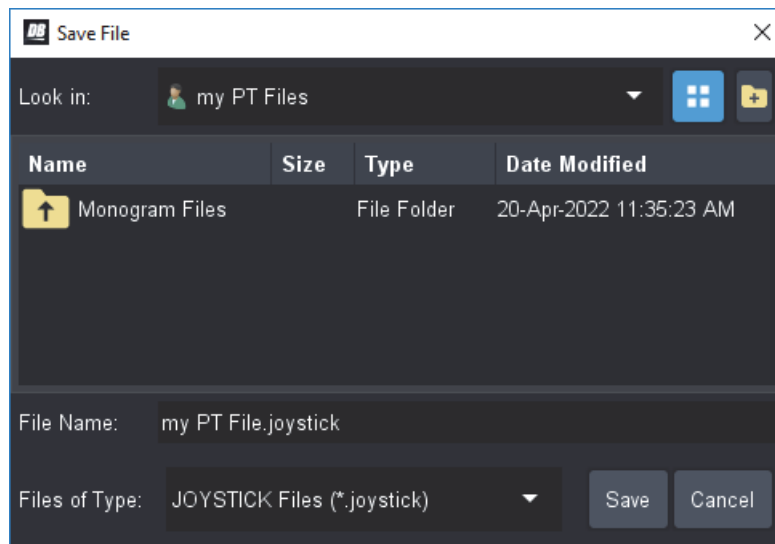

Figure 54 - Specifying a File Name for a Dashboard .joystick File
5. In the **File Name** box, type a name for the file (Figure 54).